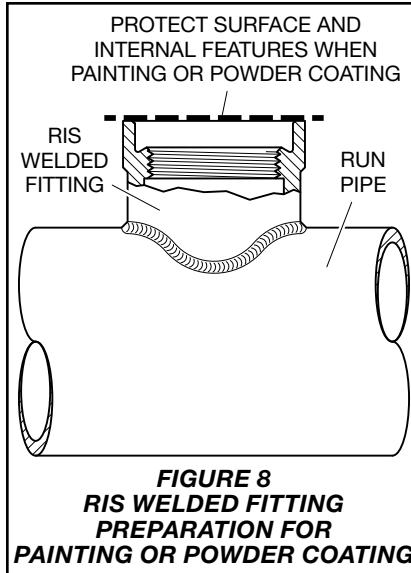

FIGURE 8
- Before painting or powder coating the RIS welded fitting, mask off the fitting lip as shown in Figure 8. For example, 1-7/8 in. (4,76 mm) high temperature polyester masking discs or a high temperature 2 in. (5,08 mm) ceramic magnet may be used to mask the fitting.